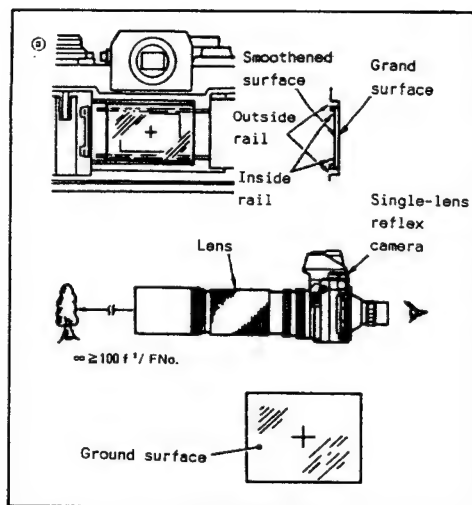

Fig. II-39
- (1) Open the aperture of single-reflex camera fully. Then, open the rear lid.
- (2) Secure the ground glass to the inside rail face by pressing it. At this step, the ground surface should face the lens side.
- (3) Shoot a scene at infinity. To check if it is in best focus, enlarge the image on the ground glass through the magnifier.
- * Note: Distance for infinity: See Fig. II-39.
- (4) After the above checking, remove the ground glass once and mark cross hairlines on it. Then, attach it to the camera again.